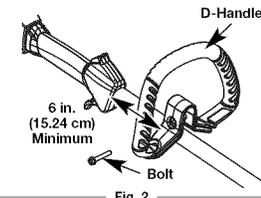

Fig. 2
- Loosen the bolt on the handle just enough to move it (Fig. 2).
- Tighten the bolt until the D-handle is secure. (Fig. 2)